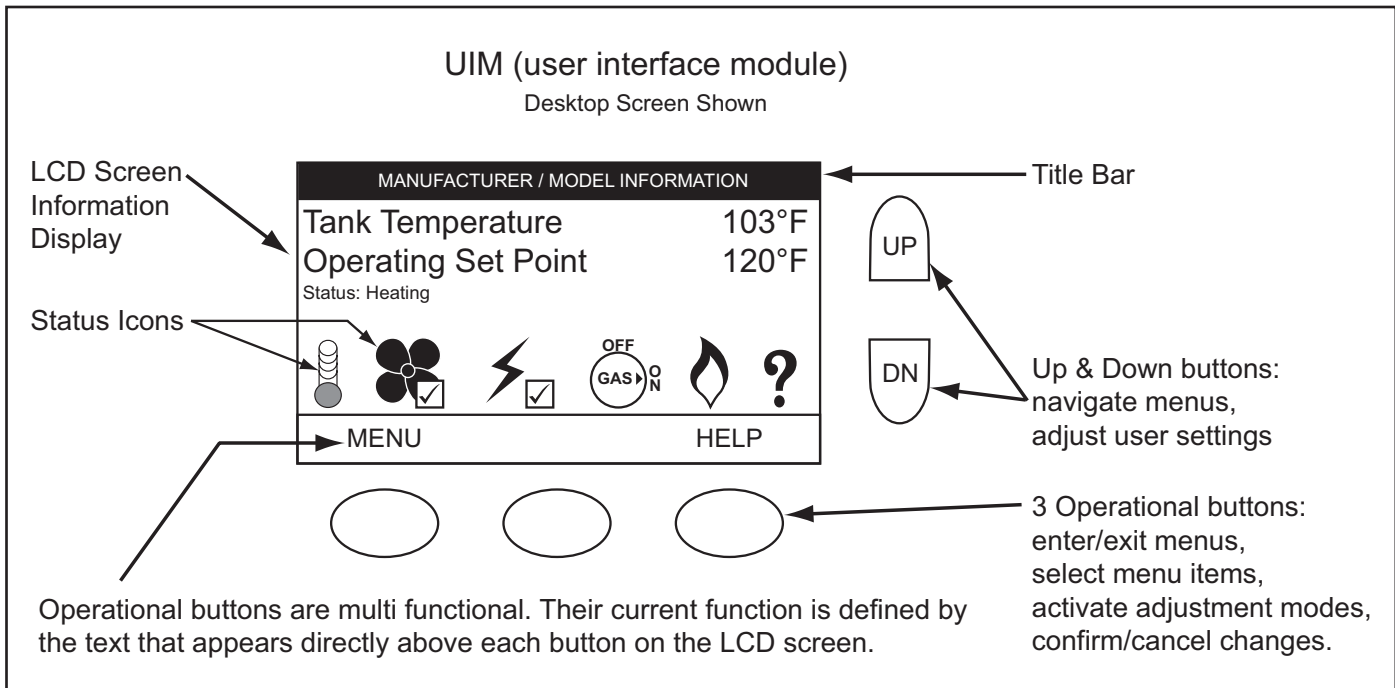

Figure 51
All operational information and user settings are displayed and accessed from the UIM. The UIM houses the control system's LCD (liquid crystal display) and five snap acting (momentary) user input buttons; an up, down and three (3) multi functional operational buttons below the LCD, see Figure 51.
The Status Icons are displayed on the Desktop screen and convey operational and diagnostic information. The icons are described in the table below. See Figure 51 on page 42 and the Sequence Of Operation on page 55.
The current operational state of the water heater is displayed on the Desktop screen as the "Status." The common operational states are described in the table below. See Figure 51 on page 42 and the Sequence Of Operation on page 55.